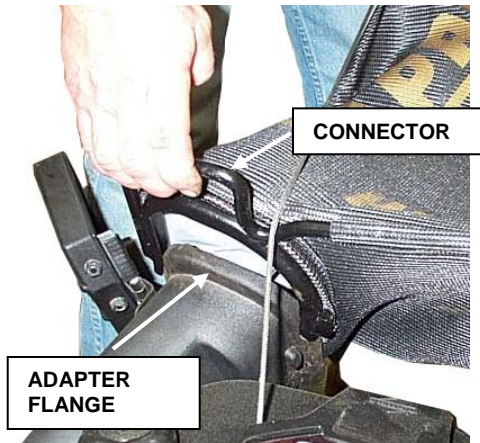

FIGURE 2.11
STEP 2: Install grass catcher by sliding connector over flange of adapter. See Figure 2.11